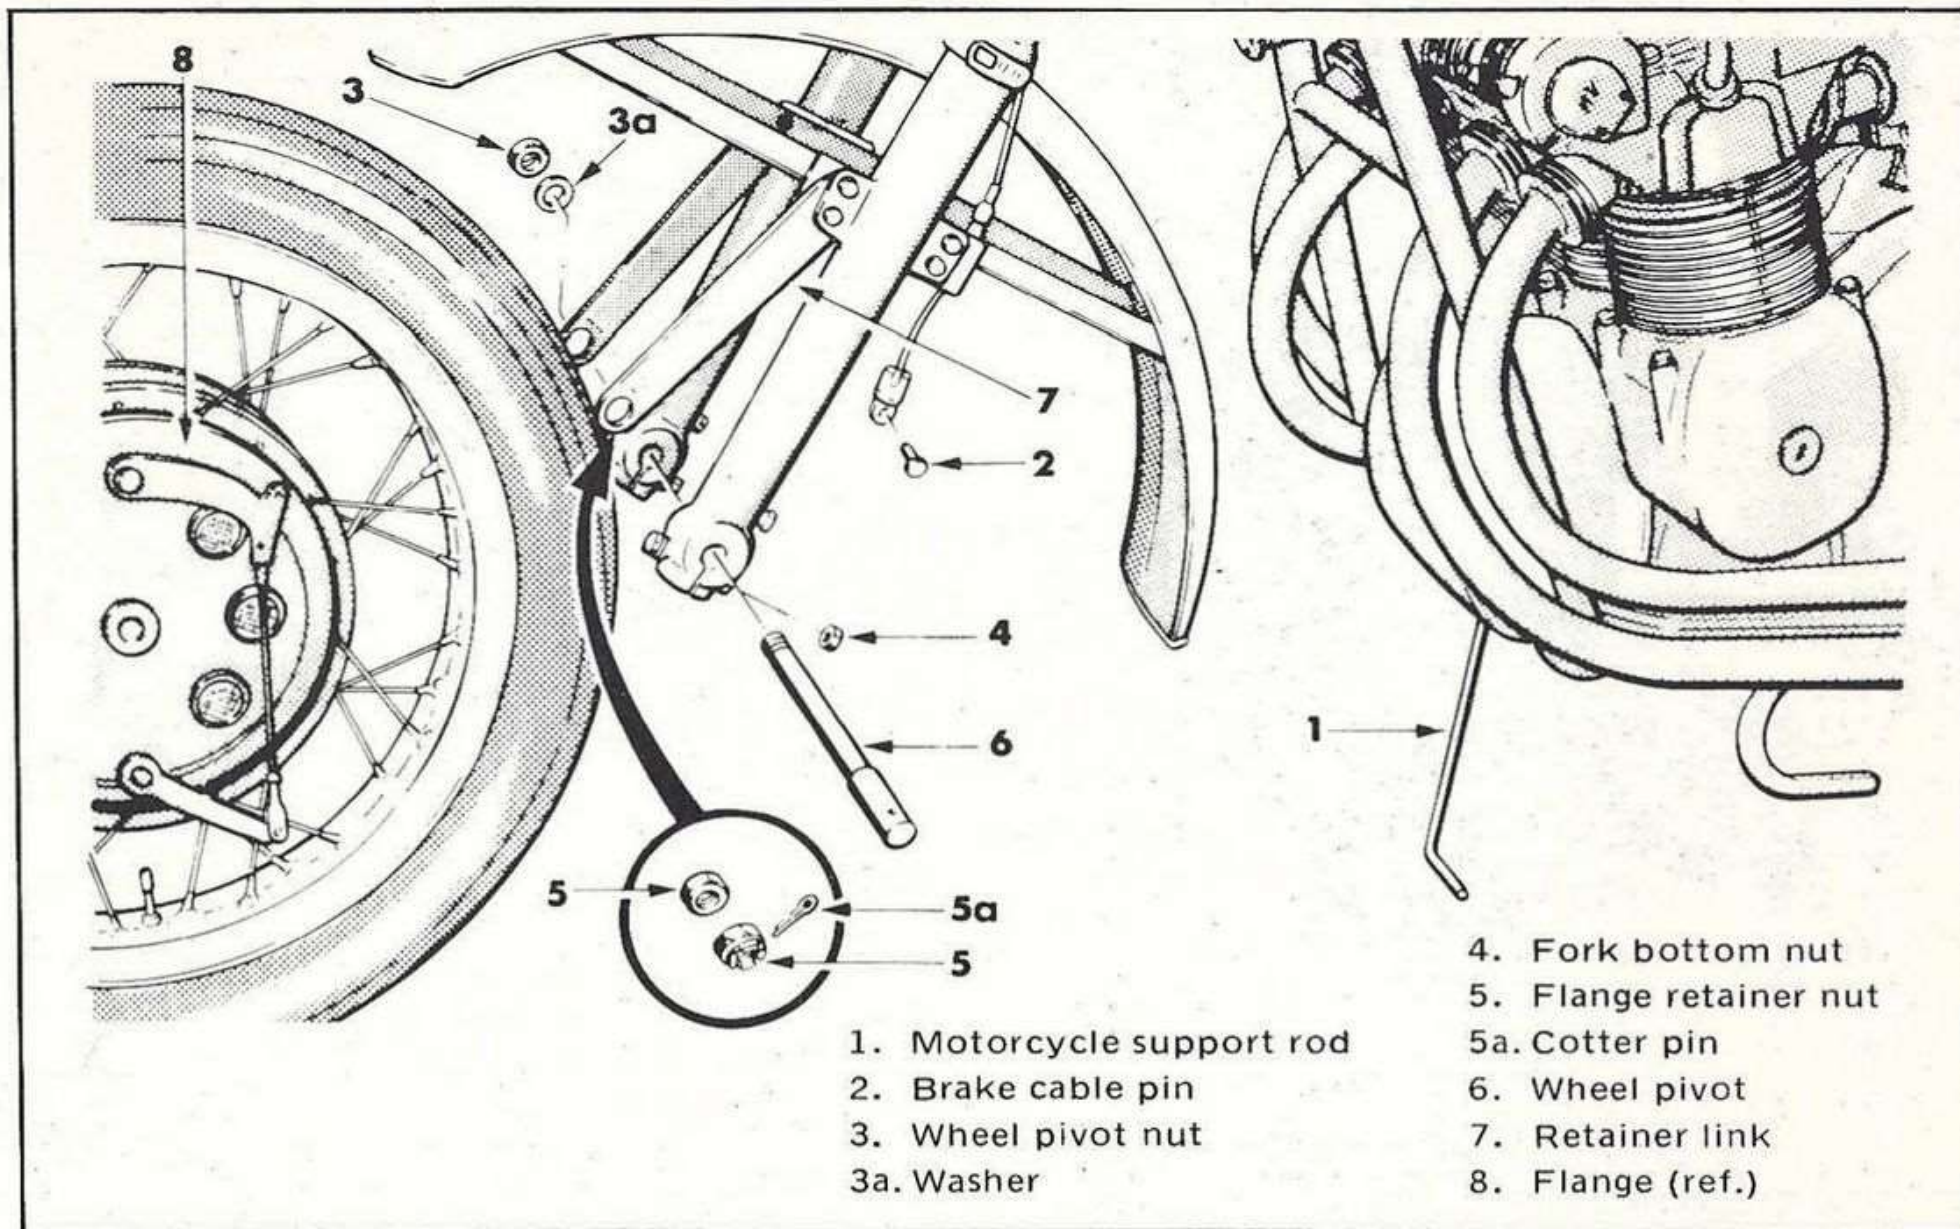

Figure 3-16. Removal of front wheel with drum type brake
Removal of front wheel with drum type brake (See figure 3-16)
- b. Lift the front wheel by means of the appropriate support rod (1, figure 3-16) stored under engine case.
- c. Remove pins (2) from brake control cable forks.